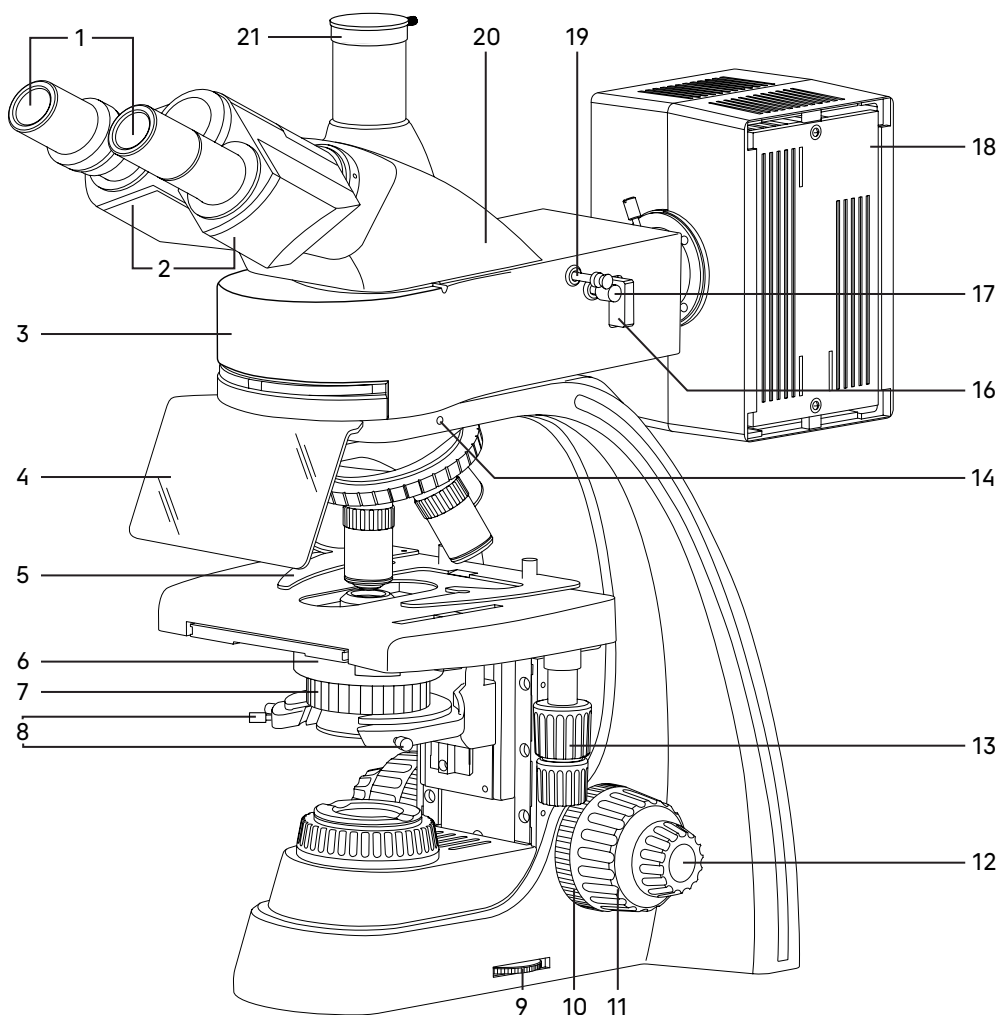
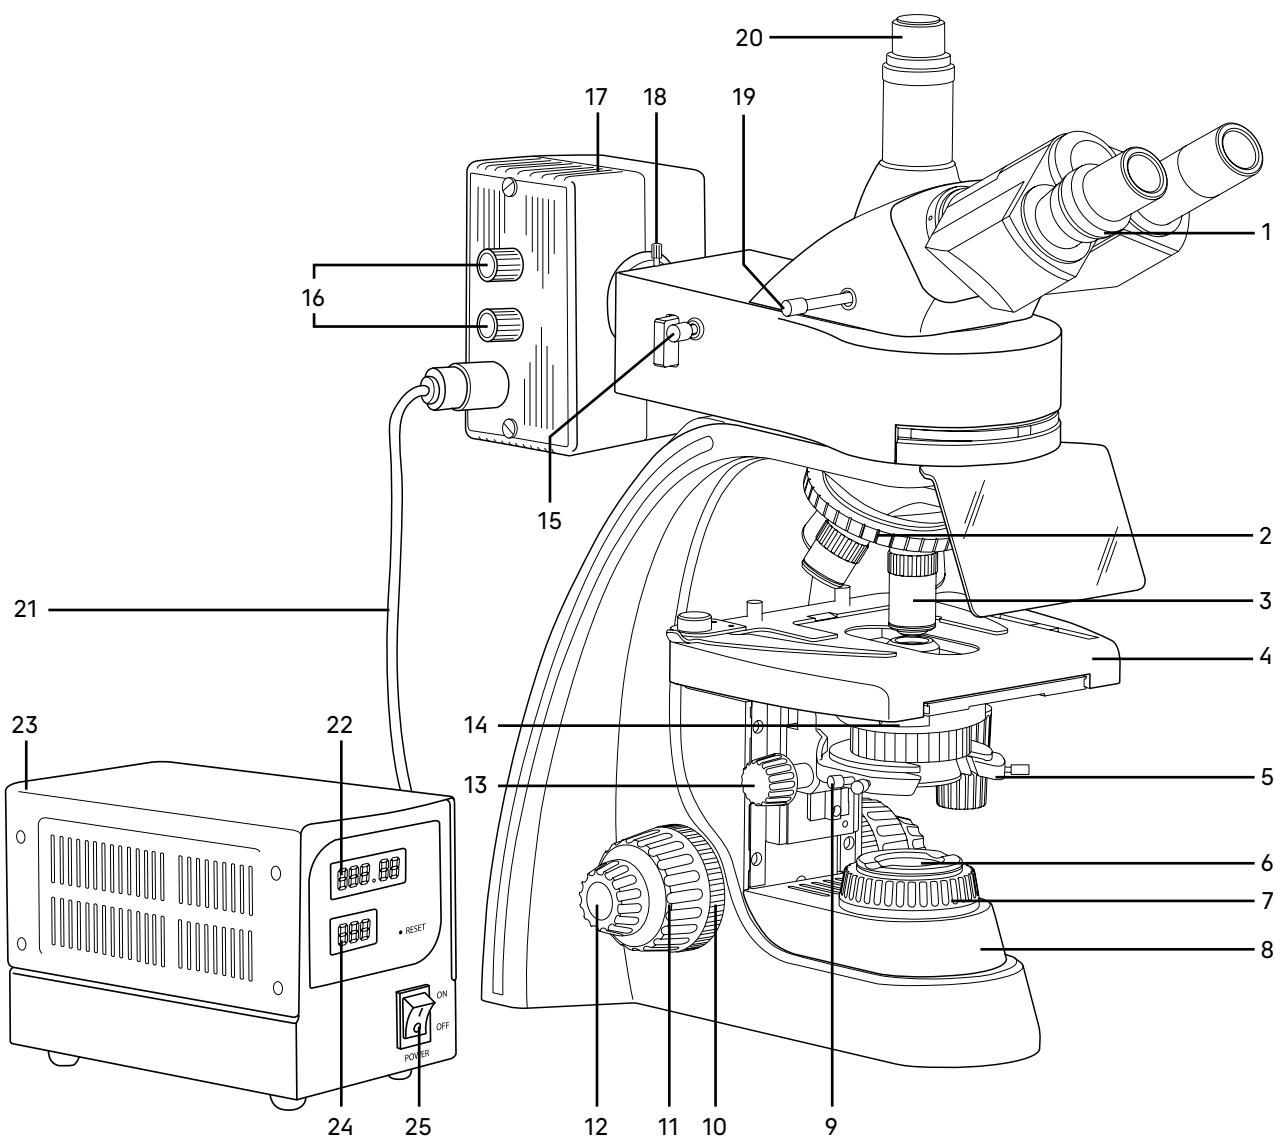

Fig. 1. MAGUS Lum 400 Fluorescence Microscope. View from the right
Fig. 2. MAGUS Lum 400 Fluorescence Microscope. View from the left
The general view of the microscope is given in Fig. 1 and 2.
The stand 8 (Fig.2) is a one-piece structure with the base. The base has Y-shaped stable ergonomic design.
- revolving nosepiece 2 (Fig. 2) with objectives 3 (Fig. 2)
- stage 4 (Fig. 2)
- condenser mount 5 (Fig. 2)
- collector with field diaphragm 6 (Fig. 2).
The ring 9 (Fig. 1) is used to adjust the supply voltage of the transmitted light source.
Focusing on the specimen is achieved by adjusting the height of the stage 4 (Fig. 2). Coarse focusing is performed by rotating the coaxial knobs 11 (Fig. 1, 2) on both sides of the microscope stand.
Fine focusing is performed by rotating the knobs 12 (Fig. 1, 2) on both sides of the microscope stand. Fine focusing allows for precise focusing on the specimen and re-focusing the microscope to get an accurate image resolution when changing objectives and specimens.
The coarse focusing tension adjustment is performed by the ring 10 (Fig. 1) between the stand and the coarse focusing knob on the right side. The ring adjusts the coarse focusing tension so that the tension is comfortable for the user, but the stage does not lower spontaneously during operation.
The coarse focusing lock knob 10 (Fig. 2) is located on the left side. Once the coarse focusing is completed, we recommend rotating the knob clockwise as far as it will go. This secures the coarse focusing position to allow for rapid re-focusing after the specimen is changed.
The microscope head 20 (Fig. 1) provides the visual observation of the specimen image. It is installed in the mounting hole of the top flange of the epi-fluorescence illuminator 3 (Fig. 1) and secured with the clamping screw 15 (Fig. 1). When installing the microscope head, turn the eyepieces towards the stage.
The interpupillary distance is adjusted by rotating the eyepiece tubes 2 (Fig. 1) in the range of 48–75mm. The distance between the eyepieces matching the observer's interpupillary distance is marked on the adjustment scale.
The eyepiece diopter adjustment is intended to compensate for the observer's ametropia. It is located on the left eyepiece tube – ring 1 (Fig. 2). The second eyepiece tube is fixed.
A C-mount adapter 20 (Fig. 2) is installed in the trinocular tube 21 (Fig. 1) of the microscope head to fix the camera. The camera is used to transmit the image to a computer screen or monitor/TV. You can switch the light path to the trinocular tube using the lever 19 (Fig. 2). The lever has two positions: 100/0 and 0/100.
The microscope kit includes eyepieces 1 (Fig. 1). The eyepieces have high eye relief and are designed to work with or without glasses.
Revolving nosepiece 2 (Fig. 2) allows for the installation of five objectives 3 (Fig. 2). Objectives are changed by rotating the knurled ring of the revolving nosepiece until the objective fits into place.
Objectives 3 (Fig. 2) are designed for the infinity-corrected tube length. Parfocal distance – 45mm, linear field of view – 22mm. They are designed to observe the specimen with the 0.17mm coverslip or without a coverslip. The microscope is equipped with 4x, 10x, 40x (fluorescence), 100x plan achromatic objectives. Optional plan achromatic 20x and 60x objectives and a plan achromatic fluorescent 10x objective are available.
The condenser 6 (Fig. 1) is installed using the mount 5 (Fig. 2) under the microscope stage. It features a dovetail mount. The condenser is mounted using the guides with the specimen stage raised and the mount lowered. You can move the condenser along the optical path of the microscope using the condenser focus knob 13 (Fig. 2) located on the left of the observer under the stage. The condenser focusing range: at least 33mm.
The condenser has a slot 14 (Fig. 2) for darkfield and phase-contrast sliders.
The condenser mount has a spring-loaded holder, which allows for centering the condenser in the optical path using two screws 8 (Fig. 1). The condenser is secured in the holder by the screw 9 (Fig. 2).
The iris aperture diaphragm is adjusted (opened/closed) by the ring 7 (Fig. 1). For best image quality, the aperture diaphragm of the brightfield condenser should be closed to approximately 1/3 of the objective exit pupil diameter.
The X/Y stage 4 (Fig. 2) allows for moving the specimen in two mutually perpendicular directions using the knobs 13 (Fig. 1) located on the same axis.
The stage has no X-axis rack and pinion, which improves ergonomics. The belt-driven mechanism allows for smooth movement of the specimen. The specimen is fixed on the stage using the specimen holder 5 (Fig. 1), for which the holder is pulled aside. The specimen holder is secured to the stage with two screws. With the specimen holder removed, the specimen can be moved manually.